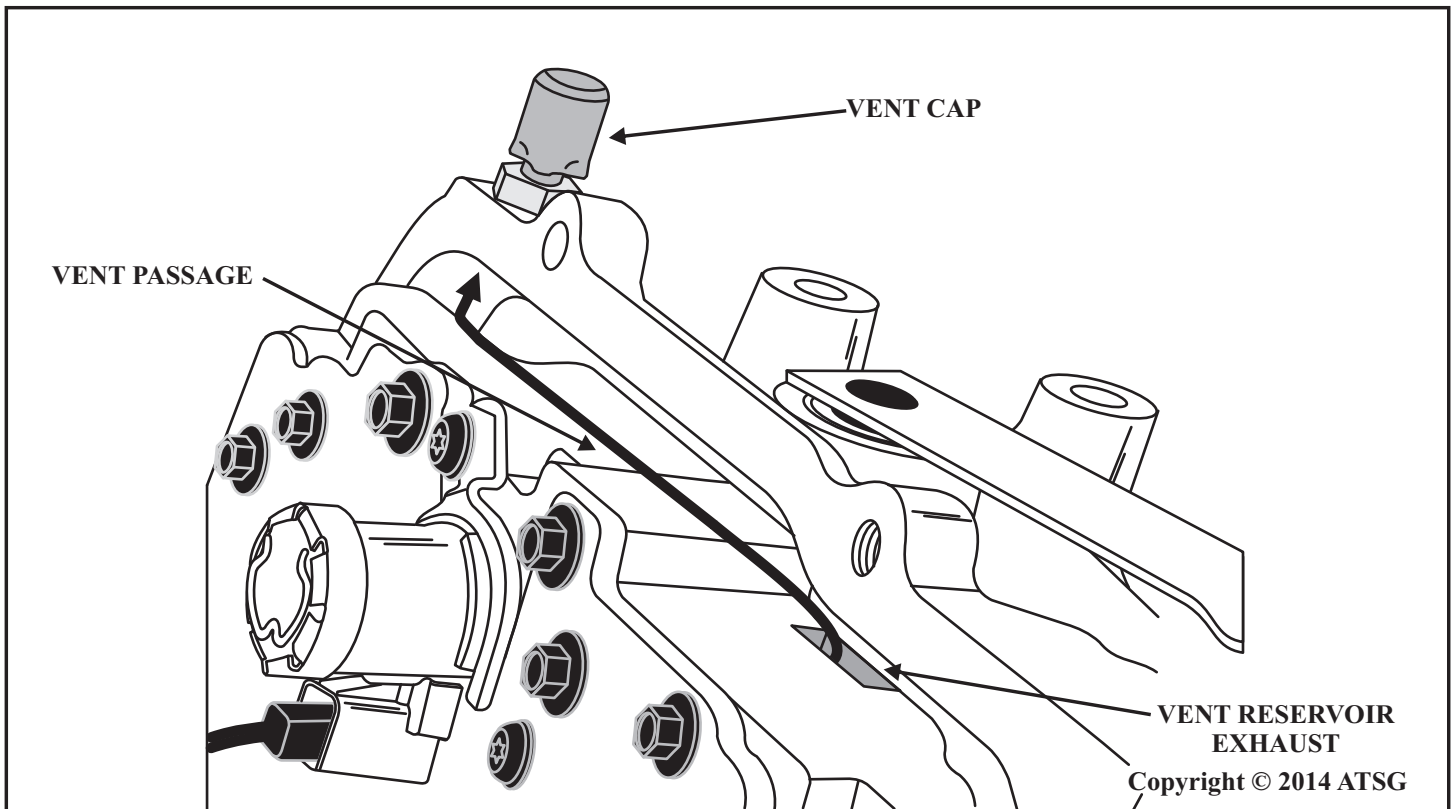

Figure 1
**CAUSE:** After further inspection it is realized that transmission fluid is being forced past the seal during highway operation. The top cavity of the transmission case directly above the valve body is part of the transmission vent system as seen in Figure 1.